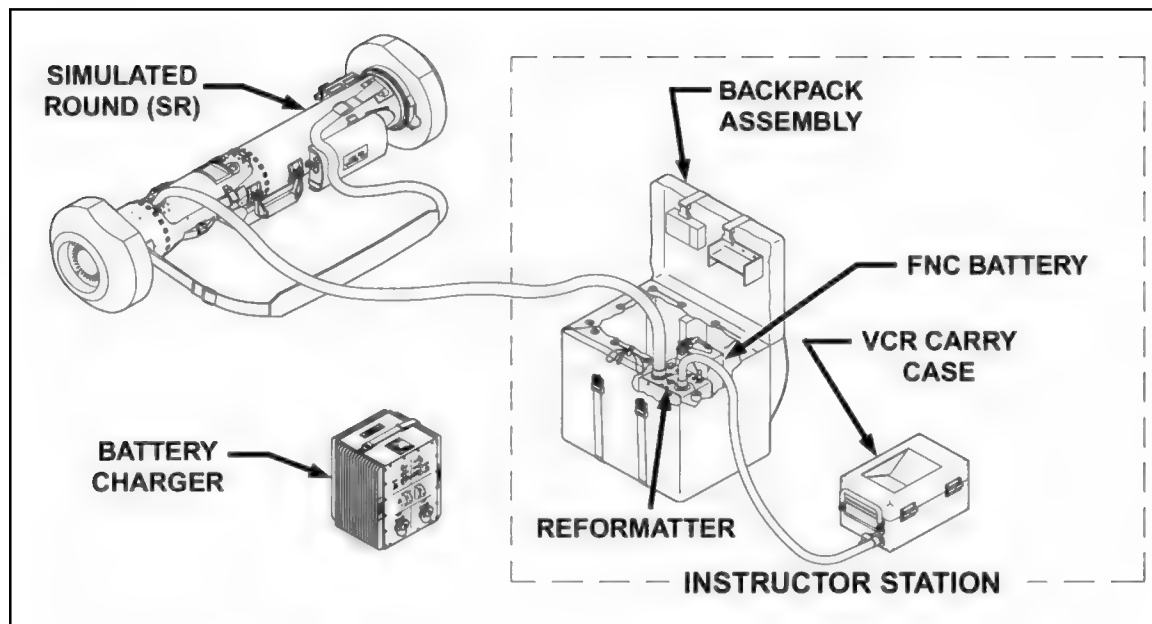

Figure 3-2. Field tactical trainer.
b. **Field Tactical Trainer.** The FTT is a fully integrated, three-dimensional force-on-force training device. The FTT combines the Javelin CLU with a SR. The SR incorporates a MILES laser transmitter to allow simulated Javelin engagements during training exercises. The FTT is designed to simulate the operation and engagement parameters of the Javelin (Figure 3-2, page 3-6).